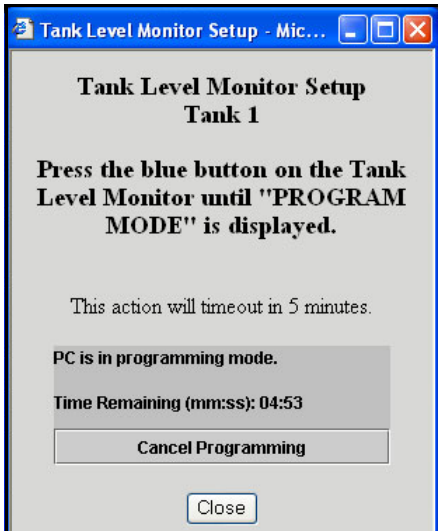

FIG. 52 Tank Level Monitor Setup
1. In the Action column of the tank record you want to program, click **Program**. The Tank Level Monitor setup timeout notice appears. See FIG. 52.